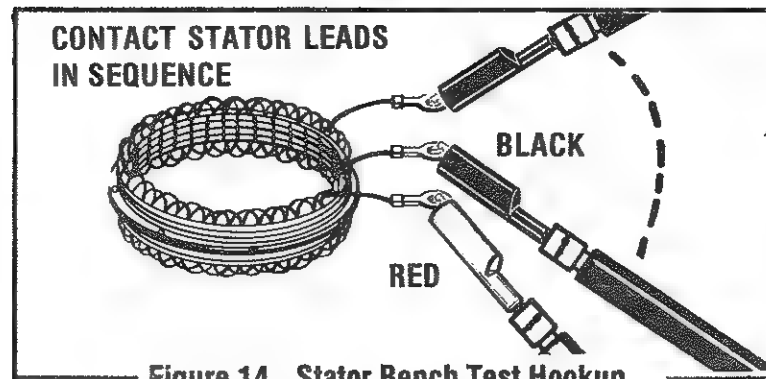

Figure 14. Stator Bench Test Hookup.
4. Connect one lead to stator connector. Touch second lead to other stator connectors in sequence (figure 14).